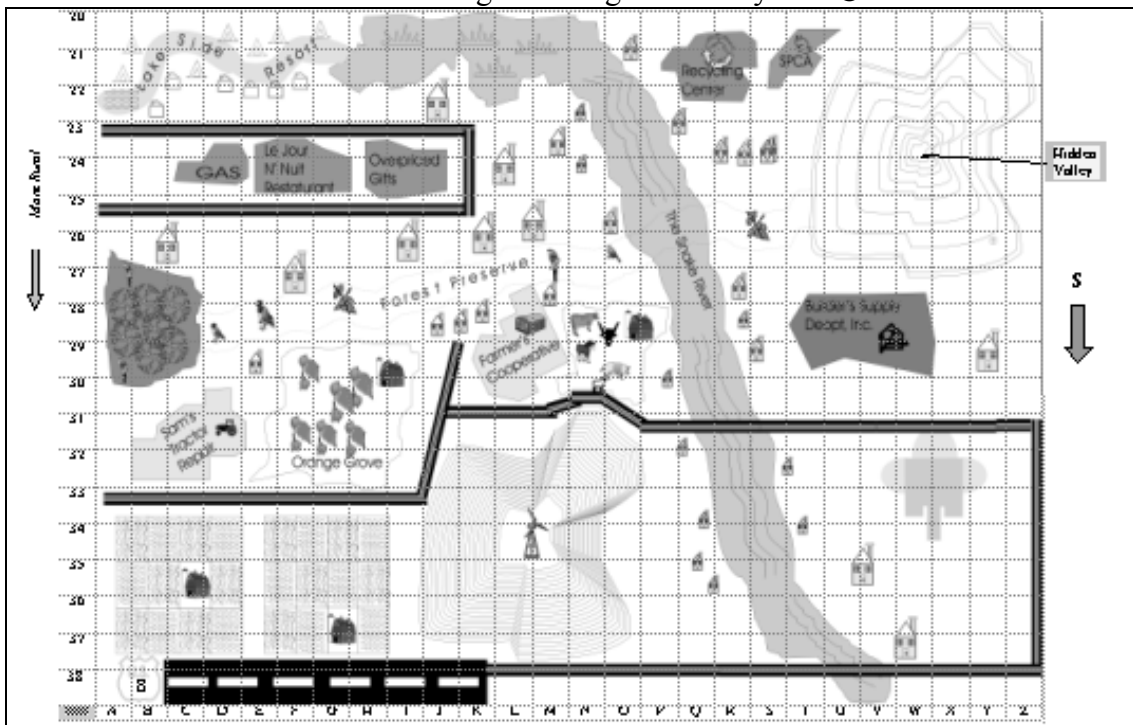
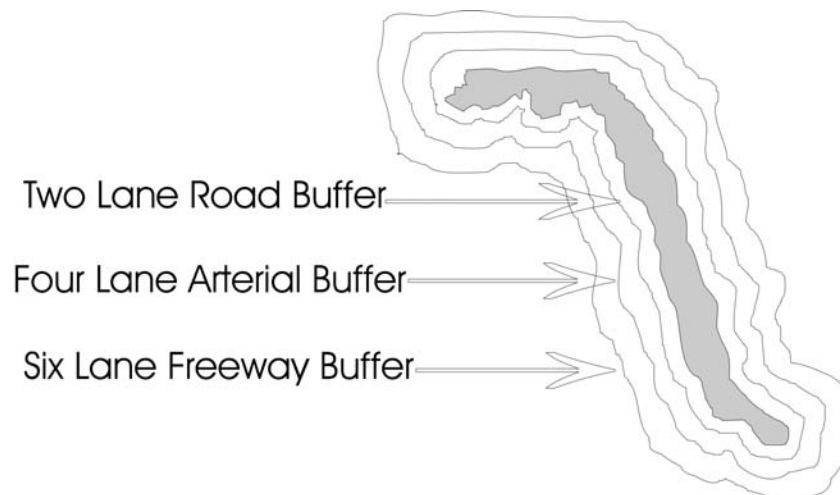

Figure 9: A “Smiley Face goes in the lower left hand corner of this map bottom (cell A38)
Figure 11: Example of Different Buffer Areas for Snake River
- Identify any areas that you *prefer* not be affected by noise or runoff from the road, such as the Snake River from the upper map in Figure 9. Encircle these areas *very lightly* in pencil. This buffer should be at least two cm from the area for a two lane road, four cm for a four lane road, and six cm away for a six lane road, as suggested in Figure 11 below.